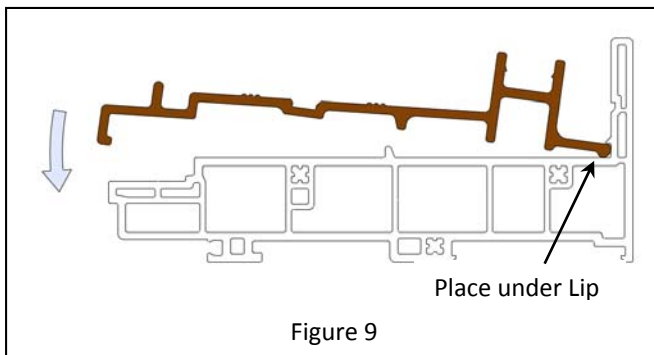
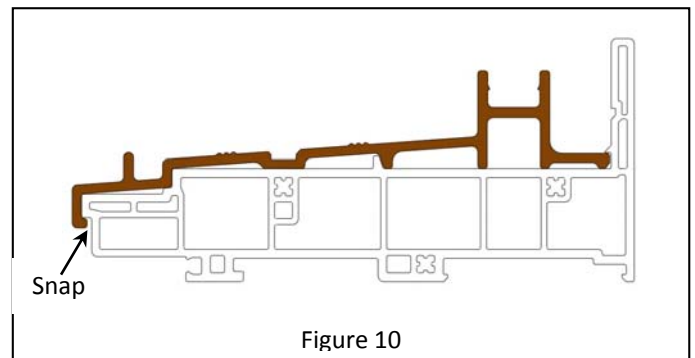

Figure 9
Figure 10
- 8) Center the fiberglass sill cover over the vinyl sill side to side and install the cover onto the sill. Start by placing the front of the cover under the lip on the back side of the sill dam as shown (Fig. 9), and rotate the cover down until it snaps over the ledge on the exterior of the vinyl sill (Fig. 10).